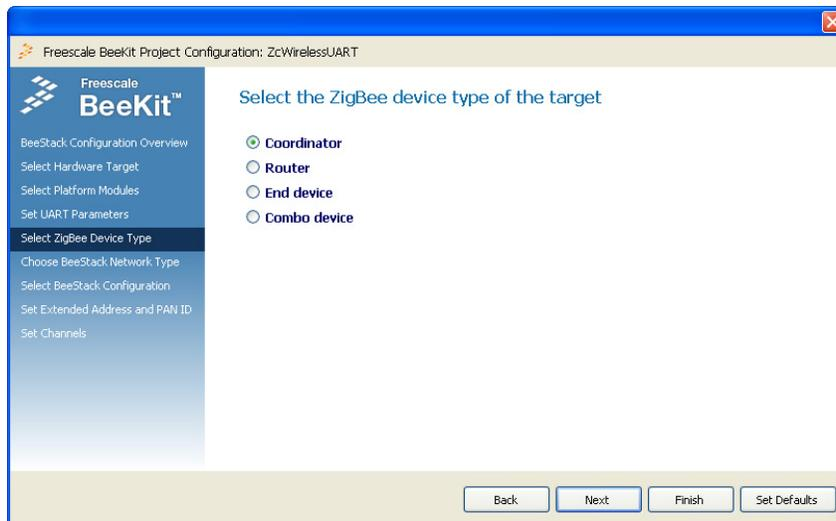

Figure 5-7. ZigBee Device Type Selection Page for Coordinator Device
6. Click the Next button and the Select ZigBee Device Type window appears as shown in Figure 5-7. Ensure that the “Coordinator” option is selected.